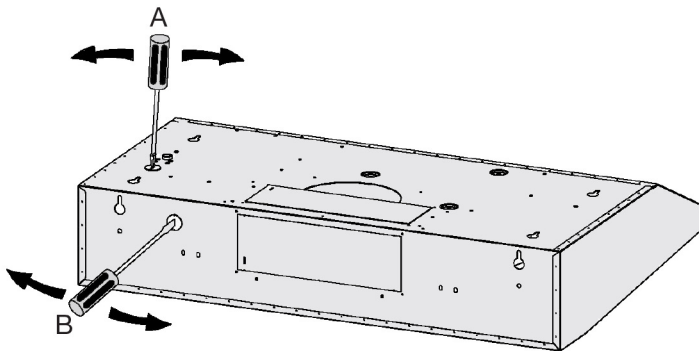

Figure 1
- Use the tool to punch the wiring hole, from the 2 options for holes. Please choose hole A or hole B accordingly to wiring requirement (Figure 1).